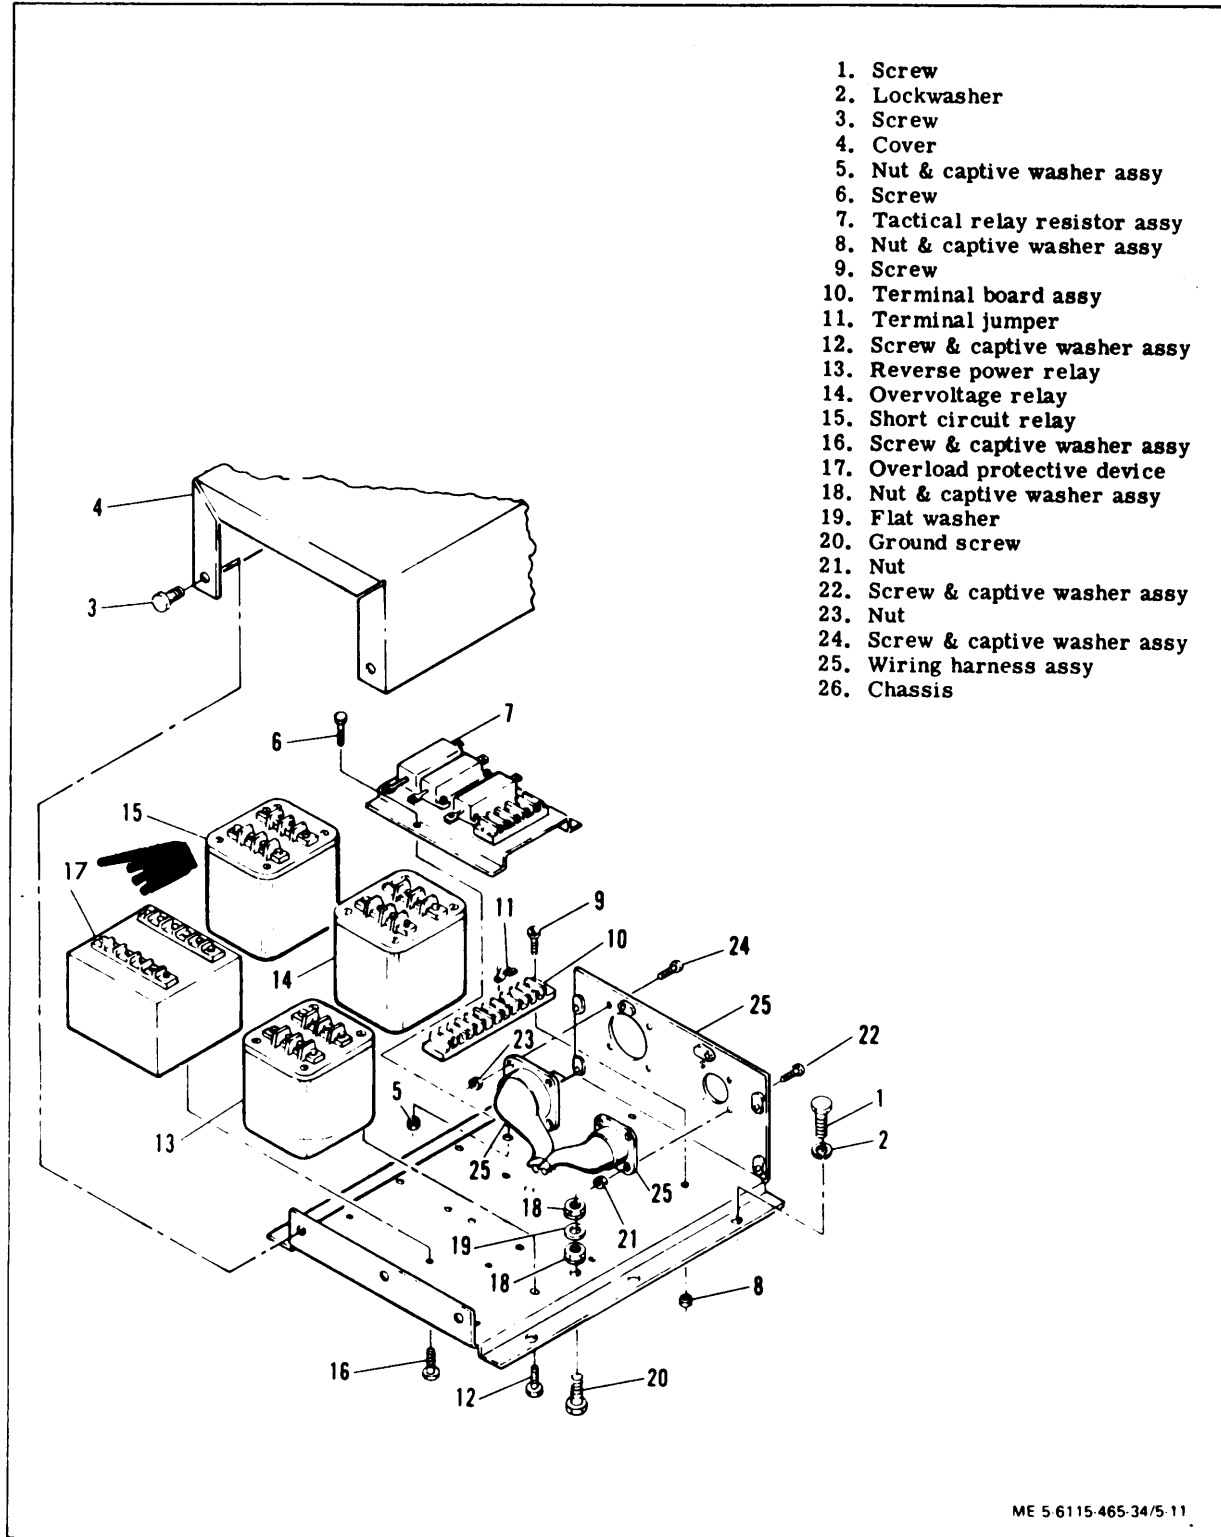

Figure 5-11. Tactical Relay Assembly, Exploded View
b. Disassembly. Disassemble tactical relay assembly (items 3 through 26, figure 5-11), only as required for replacement of damaged parts.
(1) Clean tactical relay assembly with filtered compressed air and a soft bristle brush. If necessary, dirt deposits may be removed with a clean, lint-free cloth moistened with an approved solvent. Dry thoroughly after cleaning with solvent.
(2) Inspect cover and chassis for cracks, corrosion, warping, dents, and defective paint.
(3) Inspect relays for cracked casing, corroded terminals and evidence of shorting or overheating.
(4) Inspect overload protective device for cracked casing, corroded terminals, and evidence of shorting or overheating.
(5) Inspect tactical relay resistor assembly for burns, cracked or damaged components, and evidence of shorting.
(6) Inspect terminal board assembly for cracks, corroded terminals and terminal jumpers, and evidence of shorting.